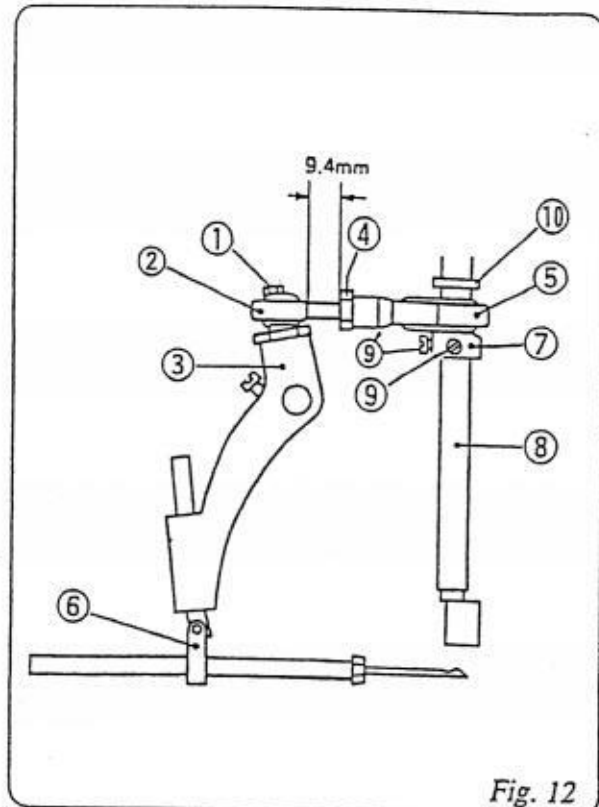

Fig. 12
For replacement or adjustment of Ball Rod, refer to Fig.12.
The position of Needle is adjusted so that the distance between the point of Needle (at its highest position) and Throat Plate is 13 mm, after loosening screw on Needle Bar Connection Assembly ⑥ in Fig.12.
- ① Screw 11/64S40089
- ② Rod End 6APOS8
- ③ Needle Bar Lever 242051A
- ④ Nut 1N8
- ⑤ Connecting Rod Assembly 242011A
- ⑥ Needle Bar Connection Assembly 242101A
- ⑦ Eccentric Cam (part of Connecting Rod Assembly) 242011
- ⑧ Main Shaft 241101
- ⑨ ⑨ Screw 11/64S40001
- ⑩ Spacer 241161